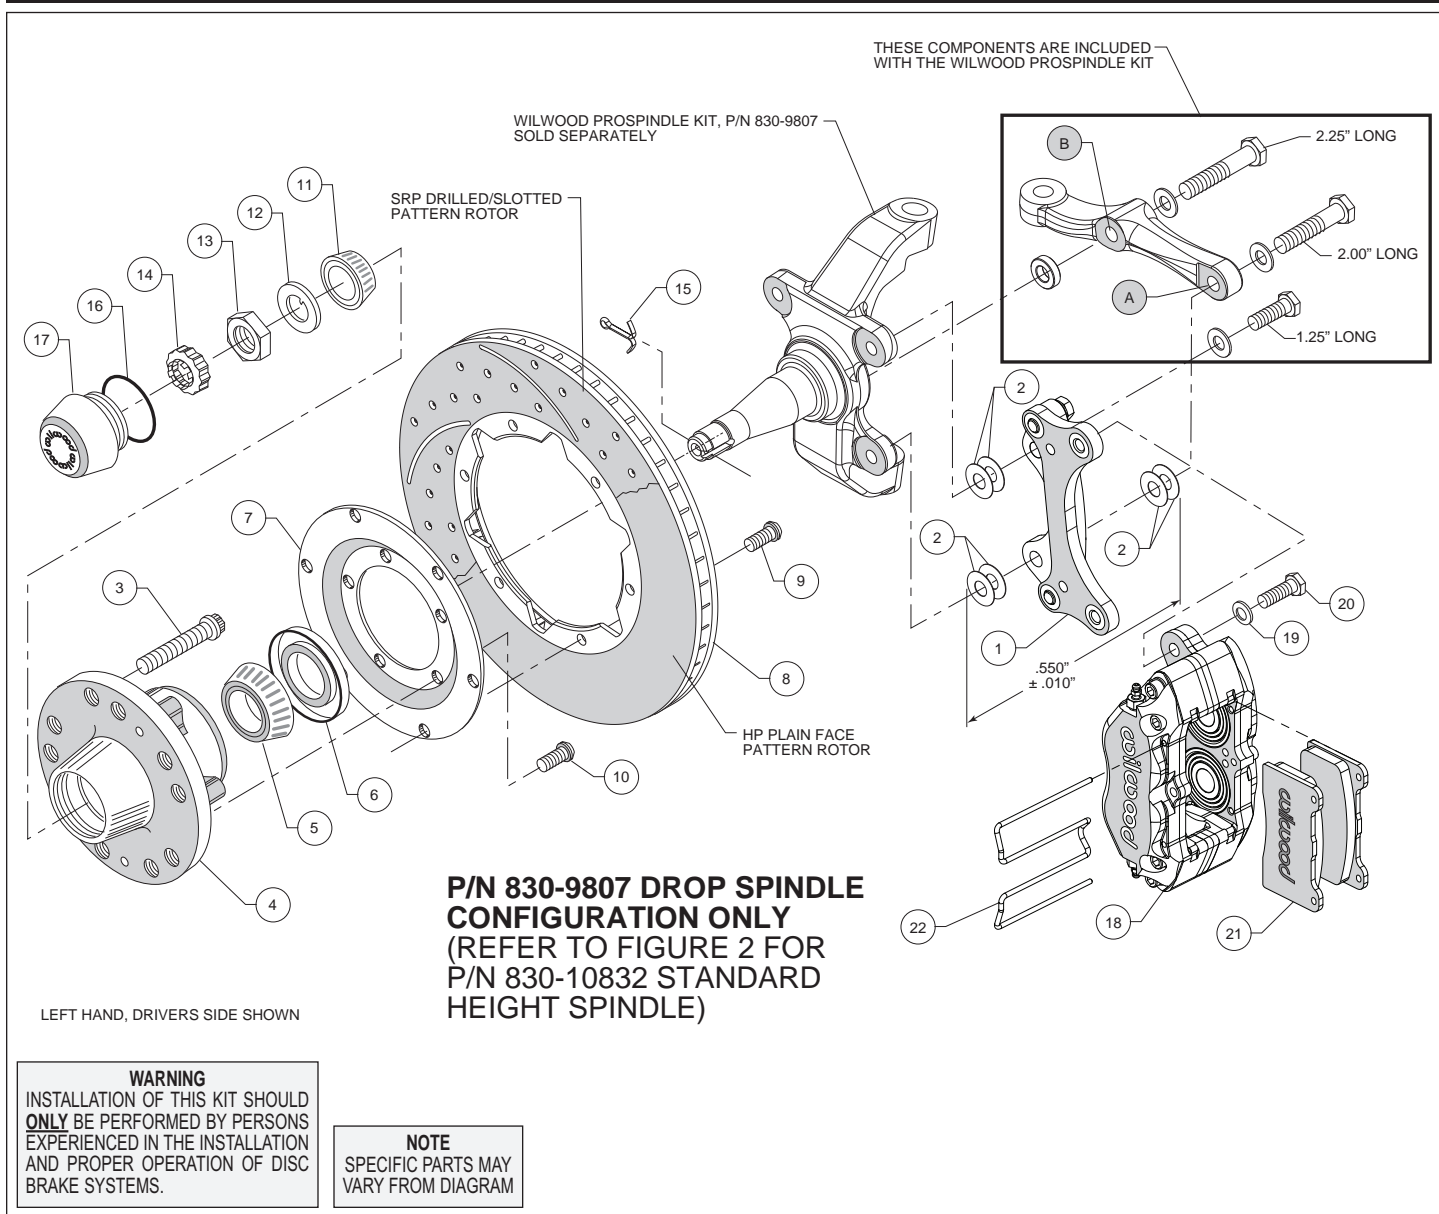

Figure 1. Installation Configuration For Drop Spindle, P/N 830-9807
**Assembly Instructions** (numbers in parenthesis refer to the parts list and Figures 1 and 2 on the preceding pages):
•**NOTE:** Each Wilwood ProSpindle kit includes bolts, washers, and a spacer to mount the steering arm and caliper bracket. The various bolts are identified by length in the following instructions and in Figures 1 and 2.
**For 2" Drop ProSpindle (P/N 830-9807):** The caliper bracket assembly (1) should initially be installed with clean, dry threads on the mounting bolts.
- Orient the bracket as shown in Figure 1 and Photo 1. Install at top spindle hole using 1.25" long bolt and .06" thick washer (from ProSpindle kit), and two .016" thick shims (2) between the bracket and spindle, Figure 1.
- Orient the steering arm, and identify the hole marked 'A', as shown in Figure 1. Install at bottom spindle hole using 2.00" long bolt, .06" thick washer (from ProSpindle kit), two .016" thick shims (2) between the steering arm and the bracket, and another two more .016" thick shims (2) between the bracket and spindle, Figure 1. The bracket is located between the steering arm and spindle. **NOTE:** The bracket and shim washers must add up to a total thickness of .550"  $\pm$  .010", Figure 1.
- Finish attaching the steering arm through the hole marked 'B', as shown in Figure 1. Install using 2.25" long bolt, .06" thick washer, and .25" thick spacer (all from ProSpindle kit), Figure 1.
- Install wheel studs (3) into the hub (4), Photo 3. Torque to 77 ft-lb. **NOTE:** *There are two lug patterns of five holes each in the hub (5 x 4.50 and 5 x 4.75).* Make sure of the correct hole pattern for the wheel application before installing the studs into the hub.
- Pack the large inner bearing cone (5) with high temperature disc brake bearing grease (available from your local auto parts store) and install into the backside of the hub (4), Photo 4.
- Install the grease seal (6) by pressing into the backside of the hub (4), flush with the end of the hub, Photo 4.
- Orient the rotor (8) and the rotor adapter (7) as shown in Figure 1 or 2 and Photo 5. Attach the rotor to the adapter using bolts (9). Using an alternating sequence, apply red *Loctite*® 271 to the threads, and torque to 25 ft-lb.
- Mount the adapter/rotor assembly (7 and 8) to the hub (4) using bolts (10), as shown in Figure 1 or 2 and Photo 6. Using an alternating sequence, apply red *Loctite*® 271 to the threads, and torque to 45 ft-lb.
- Pack the small outer bearing cone (11) with high temperature disc brake bearing grease and install into front of hub (4). Slide the hub assembly onto the spindle. Secure using spindle washer (12) and spindle nut (13), Photo 7. Bearing adjustment: Tighten the nut while turning the hub. When there is a slight bind on the bearings, they are seated correctly. Back the nut off about 1/6 to 1/4 of a turn, or sufficiently to allow .001" to .007" end play. **WARNING:** *Failure to back off adjusting nut could cause bearing to run hot and be*
- Screw dust cap (17) into hub (4), Photo 8. Friction created by the o-ring (16) on the dust cap keeps it from unscrewing.
- NOTE:** Please reference the caution statement at the beginning of the assembly instructions. Mount the caliper (18) onto the caliper mounting bracket (1) using bolts (20) and washers (19), as shown in Figure 1 or 2. Temporarily tighten the mounting bolts and view the rotor (8) through the top opening of the caliper. The rotor should be centered in the caliper, Photo 9. If not, proceed as follows:
- Adjust by adding or subtracting shims (2) between the bracket and the spindle. Always use the same amount of shims on each of the two bolts between bracket and spindle.
- For the lower bracket mount bolt, if a shim was added between the bracket and spindle, then a shim must be removed between the steering arm and bracket, such that the total thickness of bracket and shims remain equal to  $.550 \pm .010$ ", Figure 1.